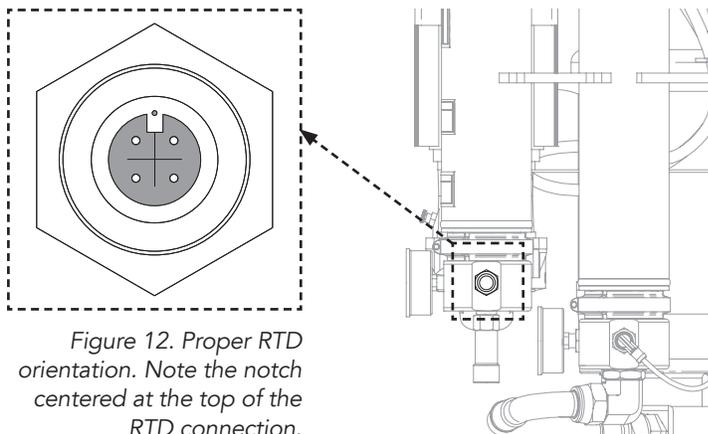

Figure 12. Proper RTD orientation. Note the notch centered at the top of the RTD connection.
5. Screw replacement RTD to tank. When tightening, ensure plug is aligned with notch toward top of tank. See Fig. 12.
To replace the heating element or perform routine maintenance, use the following procedures. See *Fig. 12*. The wattage and phase of the heating element are listed on the identification plate on the outside of the element **(B)**. Reference this label for the replacement part number.